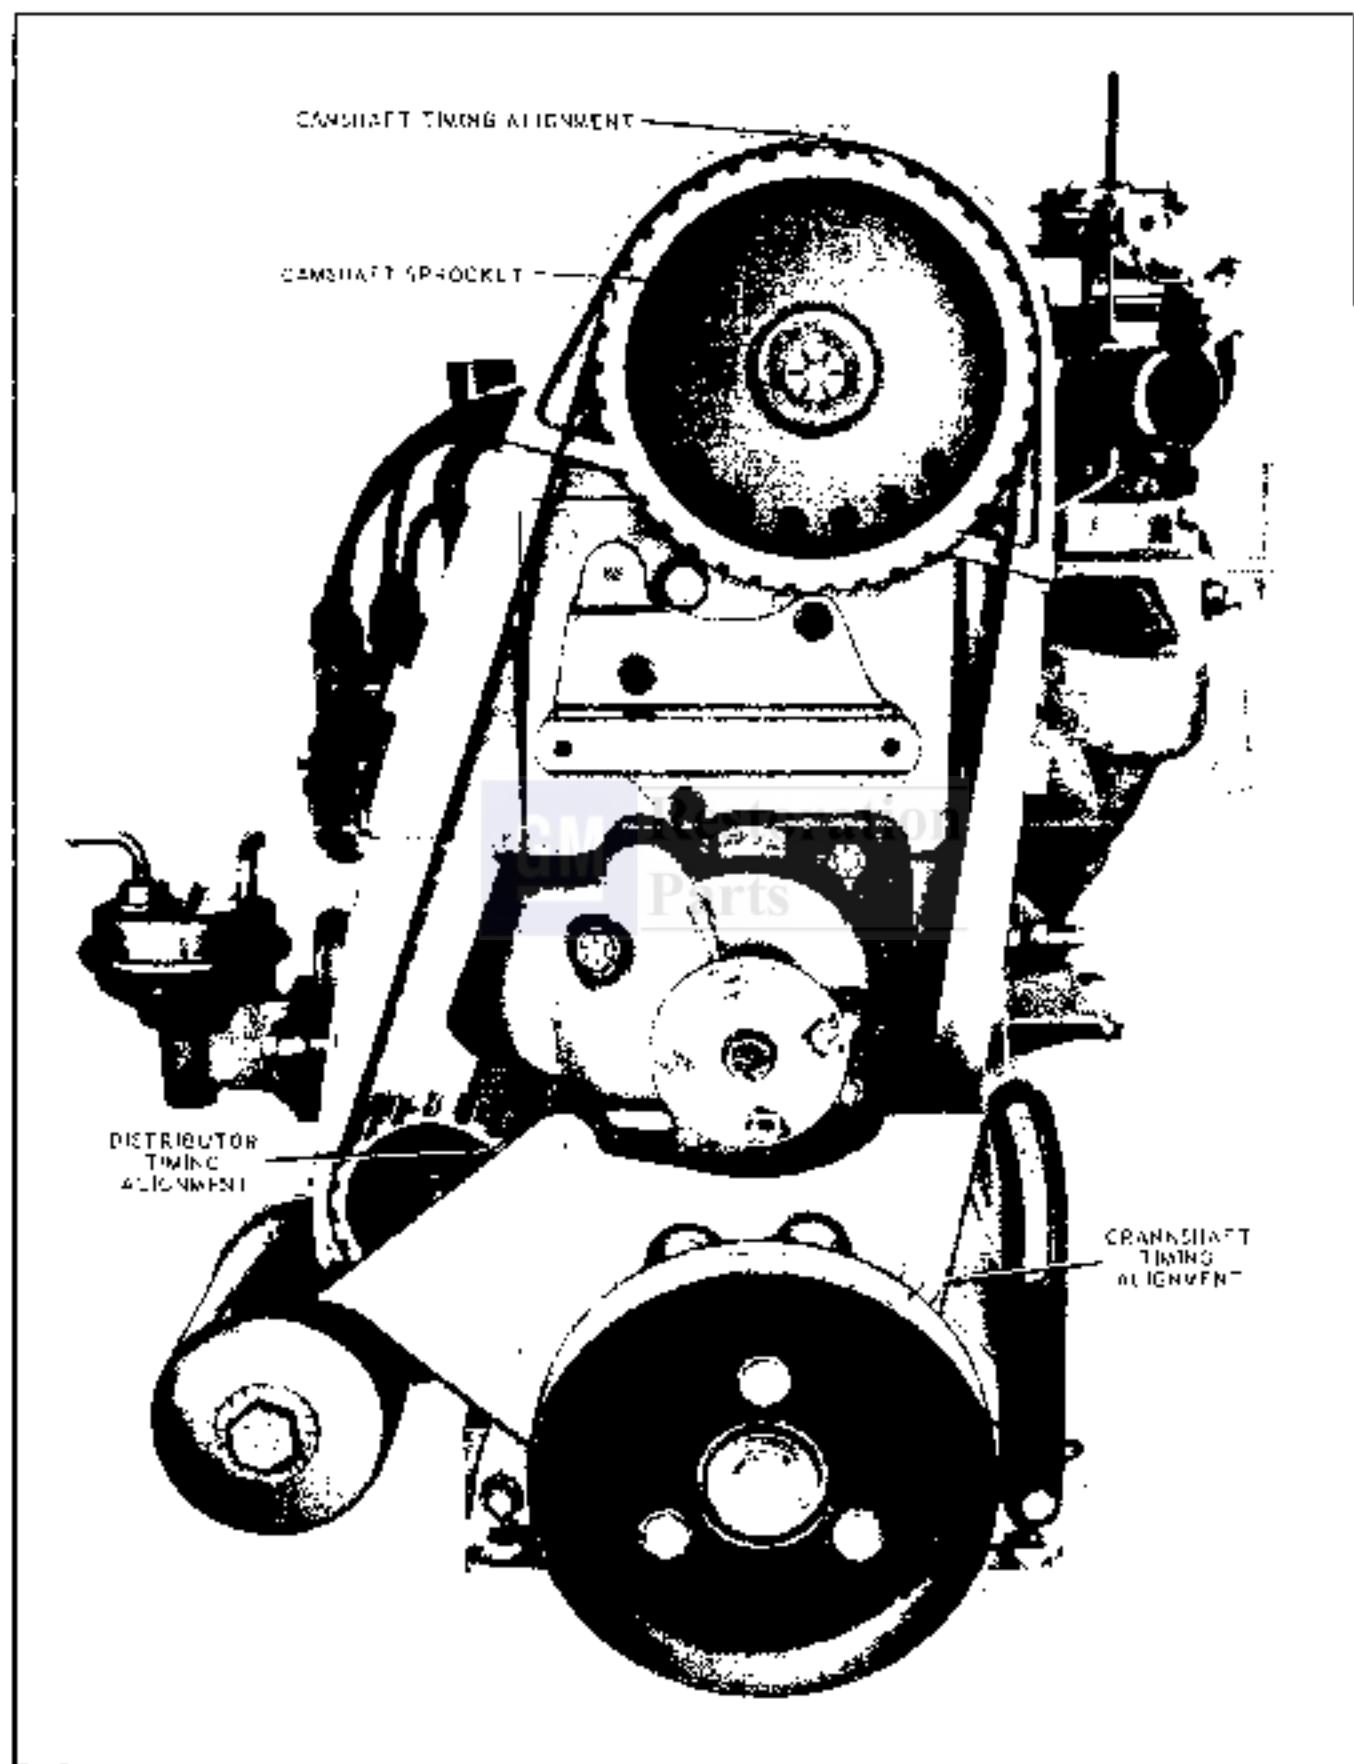

Fig. 6-7 Valve Timing Marks
2. Remove sprocket to camshaft retaining bolt (Fig. 6-7).